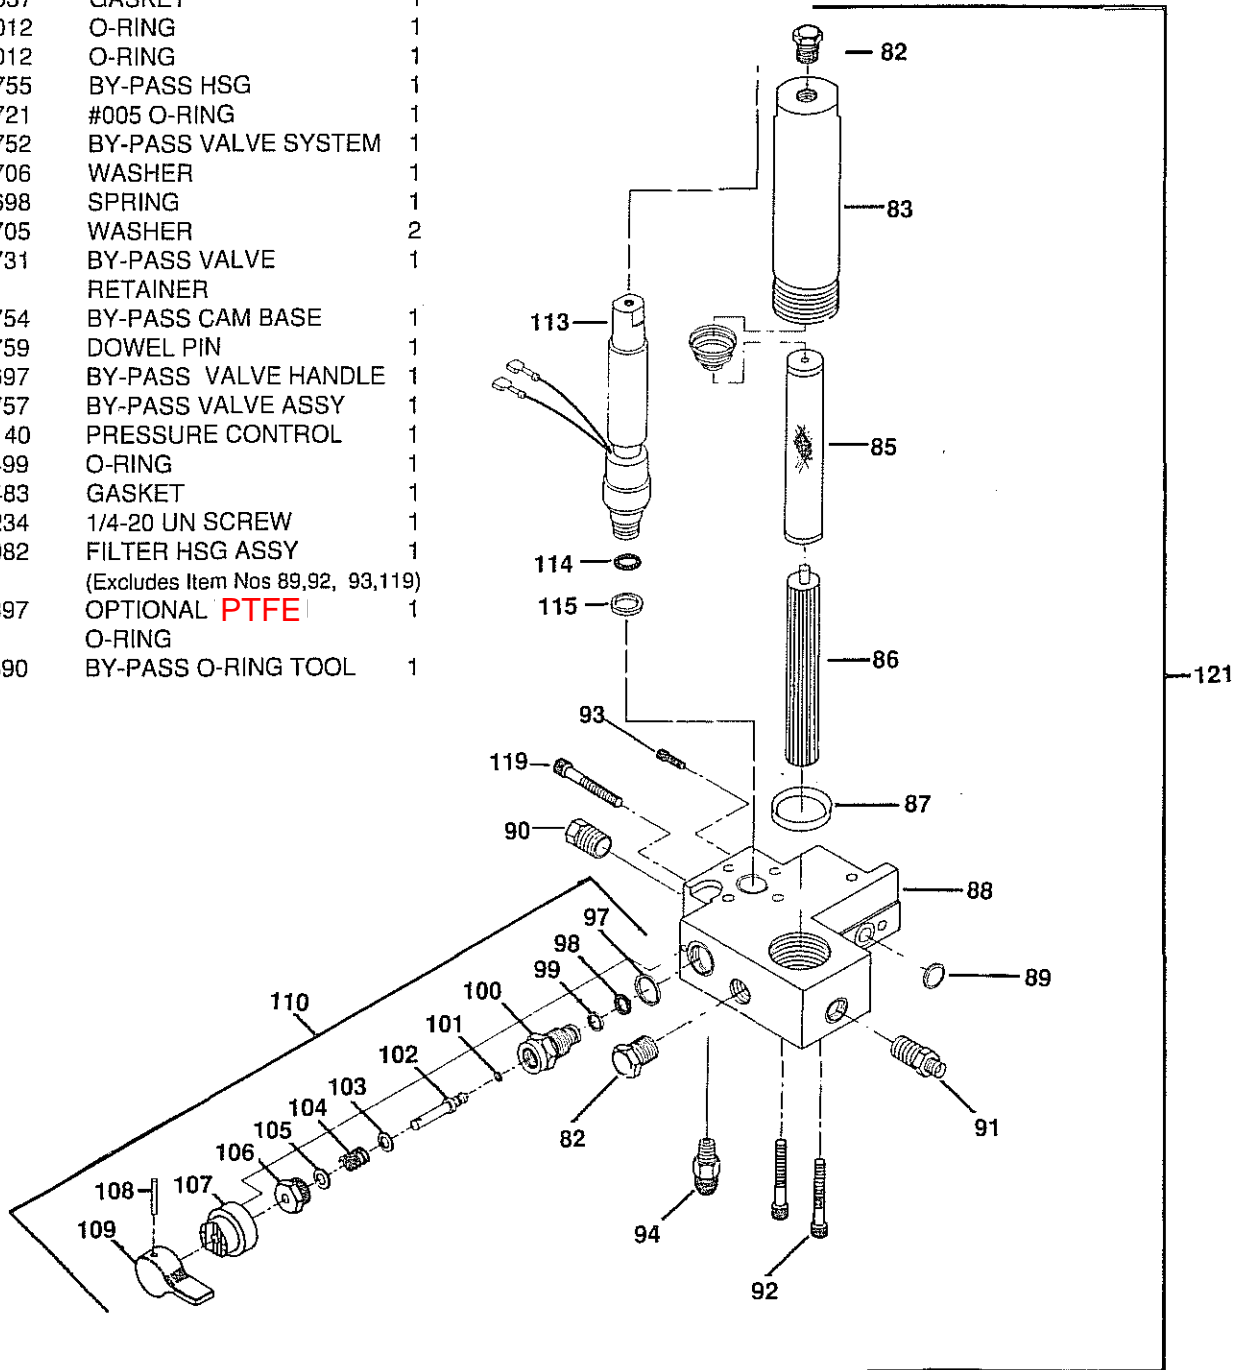

Figure 5
See Figure 5
1. Remove dowel pin #108 from bypass valve handle #109. Push out pin as shown in Figure 5.
### PUMP FILTER -- See Figure 5